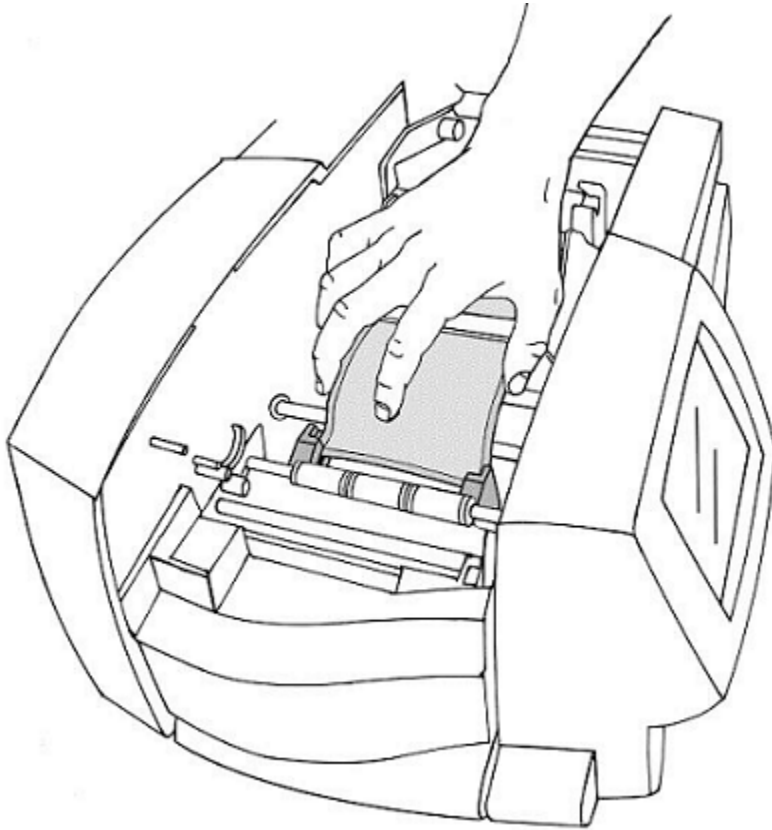

Figure 2-7. Advancing the tape.
**Step 5:** Advance the tape over the first roller with your hand as shown in Figure 2-7:
**Step 6:** Place the end of the tape between the tape guides as shown above in Figure 2-7.